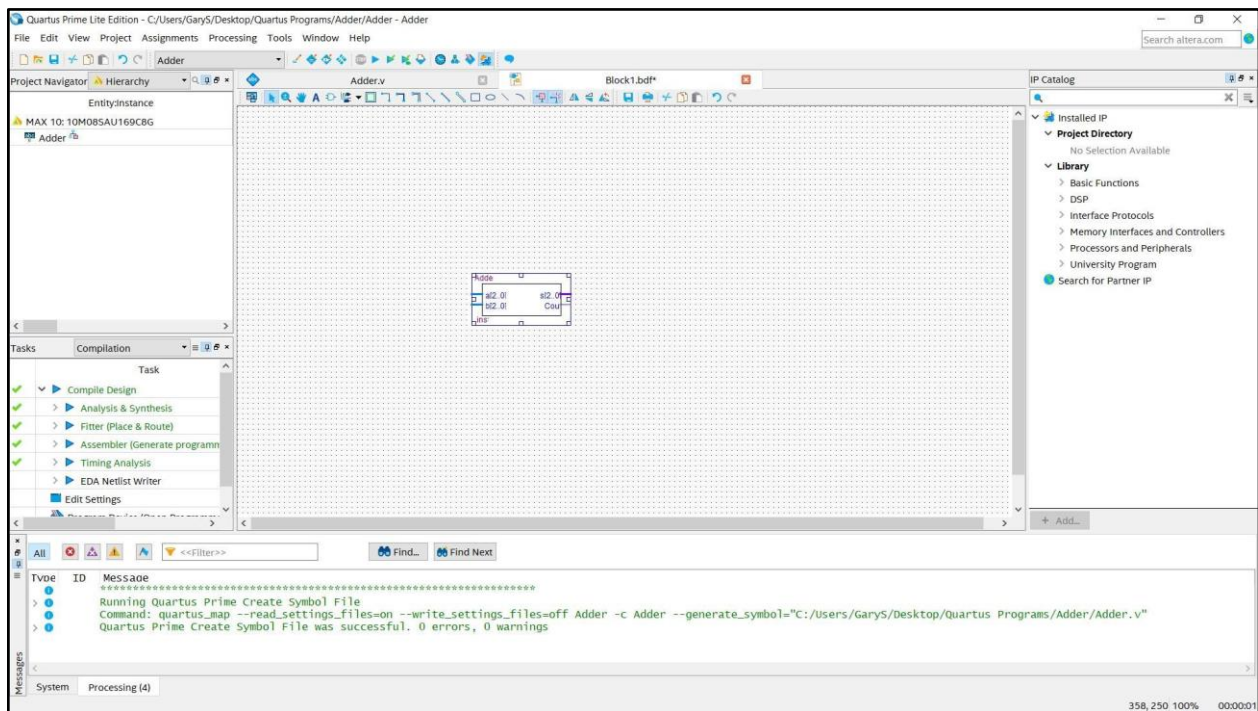

Figure 9
In order to connect a symbol file to specific I/O pins or other symbol files, you will need to create a Block Diagram file (**.bdf**). To do this, click **File>>New>>Block Diagram/Schematic File**. This opens a new **.bdf** tab in Quartus and is like a virtual breadboard where you can add and interconnect symbol files. **Right click** on the Block Diagram window and click **Insert>>Symbol**, inside the Libraries window click **Project>>Adder**. Press okay and place the Adder symbol on the schematic. As you can see the Adder symbol you created from the Verilog file has the inputs and outputs defined from the code. Inputs will be on the left and outputs on the right. **Note:** When creating a Verilog file, make sure to label your I/O with relevant names. (**Figure 9**) This will make it easier for you to connect all the I/O.
*The .bdf file will allow you to configure all your I/O for your symbols. Quartus also has built in symbols for basic functions, clocks, etc. To add them into your grid, just view the drop-down menus on the **Library** section to the right in **Figure 9**.*